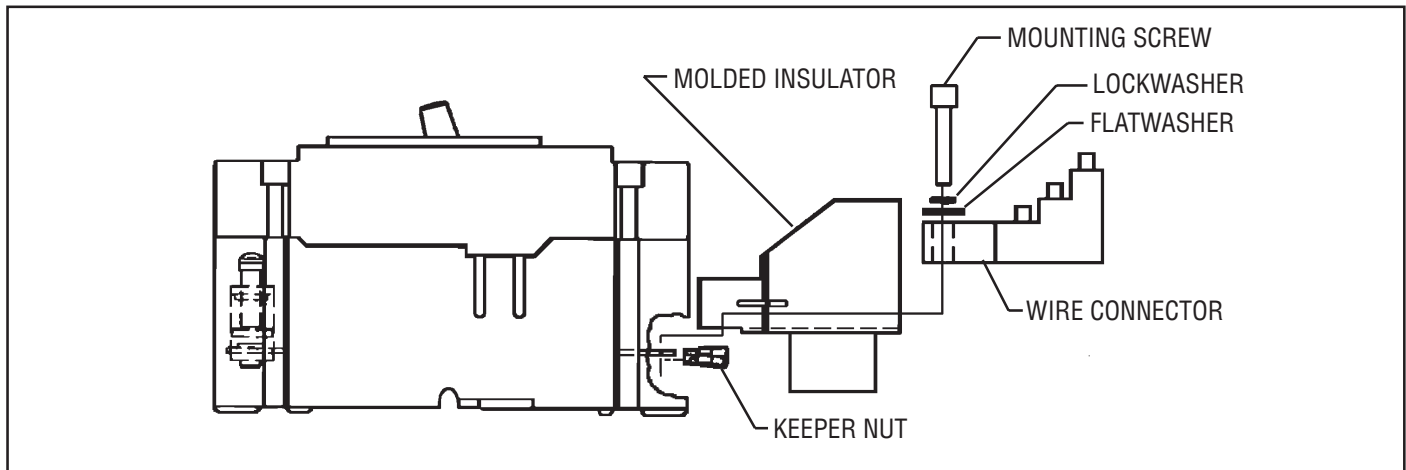

Figure 1. Typical F-Frame Circuit Breaker Installation
If circuit breaker is installed in equipment, it **MUST** be removed from equipment for installation of this kit. This kit is intended for use **ONLY** on the **LOAD END** of the circuit breaker. See Figure 1.
2. Install keeper nuts on all **LOAD END** terminals of breaker as shown in Figure 1.
3. Place kit wire connector into molded insulator as shown in Figure 1.
4. Place molded insulator and wire connector on top of breaker terminals as shown in Figure 1.
5. Install provided mounting screw, lockwasher and flat washer as shown in Figure 1. Torque mounting screw to 35 lb.-in. (5.6 Nm).